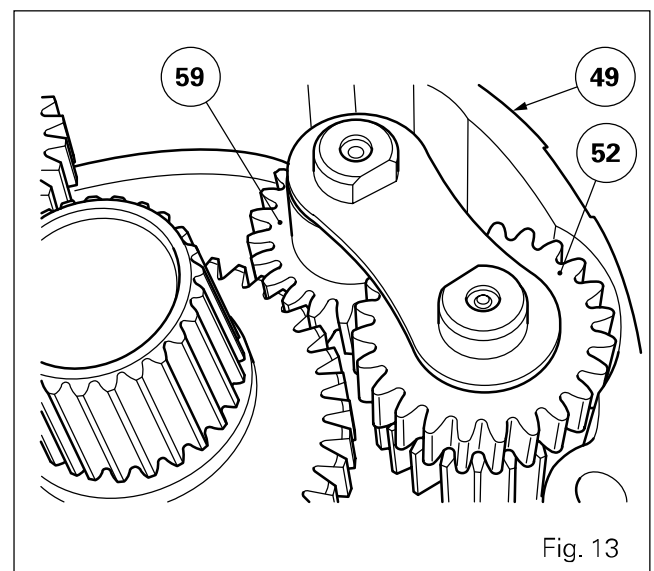

Fig. 13
- bearing (57) and position snap ring (56-),
- the double and single pinion gears (52) (59) positioned as shown in Fig. 13,
- pins (50), with the lubricating ports placed facing those in the planet carrier (49).